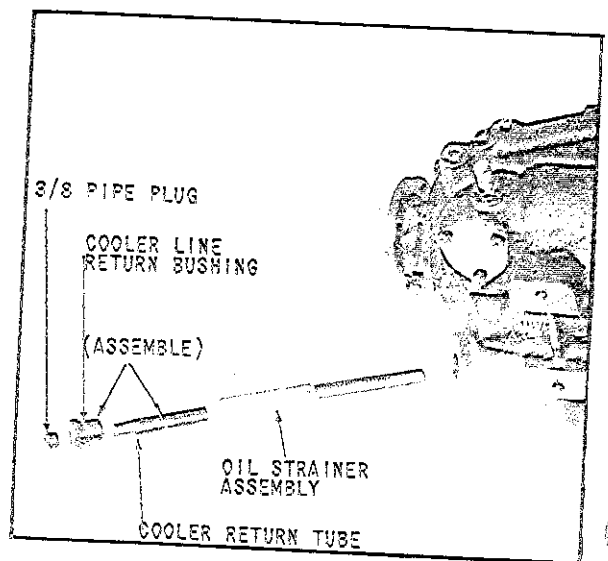
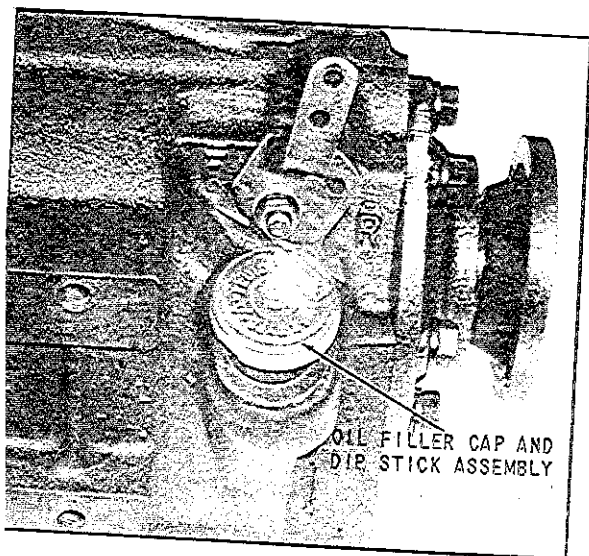
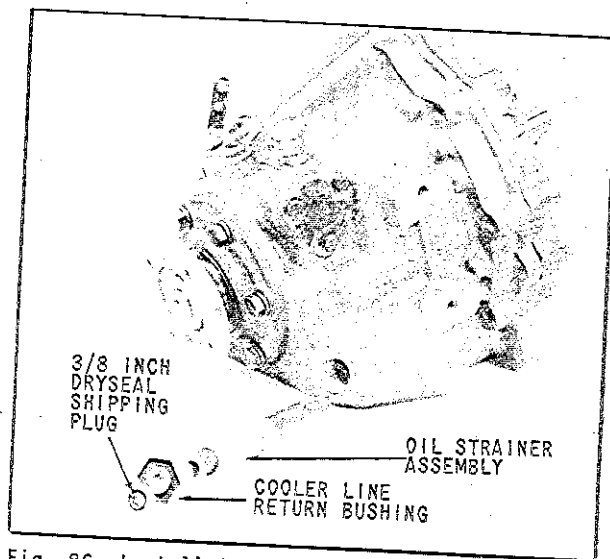

Fig. 77 Installing Oil Strainer & Cooler Return Tube & Bushing Assembly
Fig. 85 Installation of Oil Filler Cap and Dipstick Assembly
Fig. 86 Installation of Oil Strainer Assembly and Cooler Line Return Bushing
1. Place oil filler cap and dipstick assembly in the oil filler tube provided on rear left side of transmission case, (Fig. 85). Push down on filler cap and dipstick until assembly "bottoms" on tube, then turn cap to right as far as cap screw permits.
2. Assemble the oil strainer assembly (71B-A98) and cooler line return bushing (4885A) in the order shown in (Fig. 86). The small end of oil strainer assembly should protrude out of tapped hole in case approximately 1/16 inch when installed to full depth.
NOTE: Bushing (4885B) illustrated in (Fig. 77) as used with present oil strainer assembly, may be used with the old oil strainer assembly (71B-A98) shown in (Fig. 85). On the other hand, the old bushing (4885A) is not threaded the entire length of its internal thread. Therefore, it cannot be assembled with the cooler return tube (71C-84 shown in (Fig. 77). Either complete assembly of parts, illustrated in (Fig. 77) or (Fig. 86), can be used as they are interchangeable.